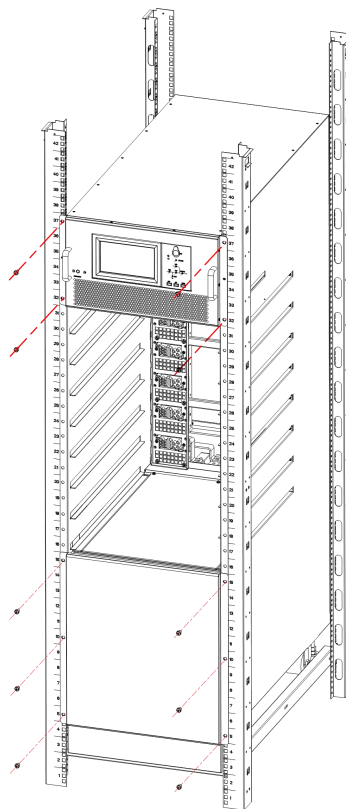

Figure 3-10 Load the UPS into the server cabinet
5. Load the UPS into the server cabinet, place on rack tray, and lock the bypass module and the manual bypass switch panel screws (6-slot cabinet needs to remove stationary barrier first), as Figure 3-10 shows;